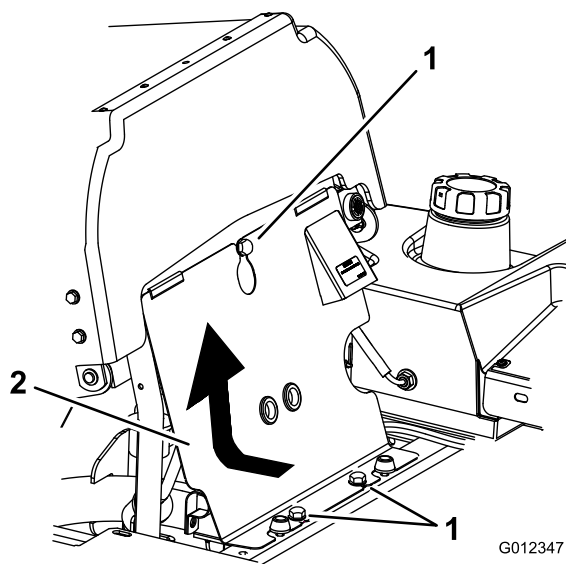

Figure 69
3. Tilt the seat forward, loosen the bolts and remove the front engine panel (Figure 69).